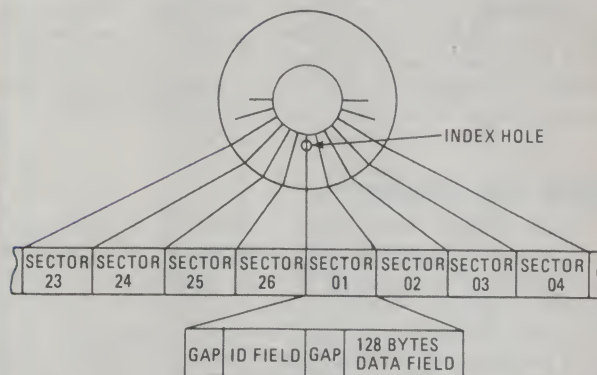

Fig. 5: The IBM 3470 format – standard for 8-inch disks.
The IBM 3470 format is shown in Fig. 5. The disk is divided into 77 tracks or concentric circles, with the count (00) starting at the outer edge; the innermost track is No. 76. Each track is subdivided into 26 sectors. Thus, there are 2002 sectors on a standard single-density 8-inch disk. The sectors are identified by soft-sectoring. Each sector is further subdivided into four sections: one to identify the sector and track number, one to accommodate 128 bytes (or 1024 bits) of data, and two gaps to separate the ID and data sections. The ID and data sections are further broken down so that in addition to containing the ID and data information, they contain pulses that are used to synchronise the controller circuitry to allow for variations in the rotational speed of the floppy disk. The ID and data sections also contain error-checking bits so that the controller circuitry can recognise an error when it occurs.